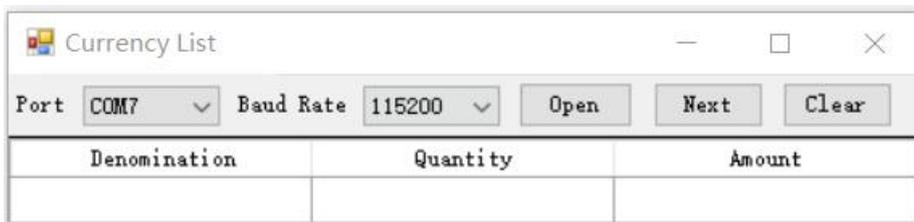

Figure 75
3) The PC automatically recognizes the USB to RS232 harness. Select the corresponding serial port in the Port column of the software interface (different harnesses have different serial ports for different machines, the serial port number shown in Figure 75 below is COM7), and then select 115200 in the Baud Rate column.